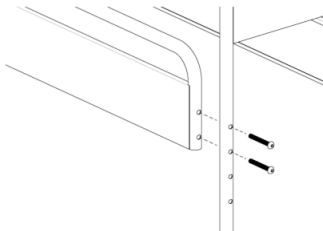

Figure 4
4. The height of the side panel can be adjusted here, with a hole spacing of 50mm (Figure 4).